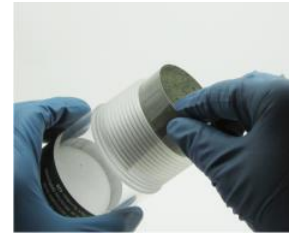

Figure 4
1.3. Remove exhausted colorimetric indicator (Figures 4 & 5) 4
1.3. Remove exhausted colorimetric indicator (Figures 4 & 5)